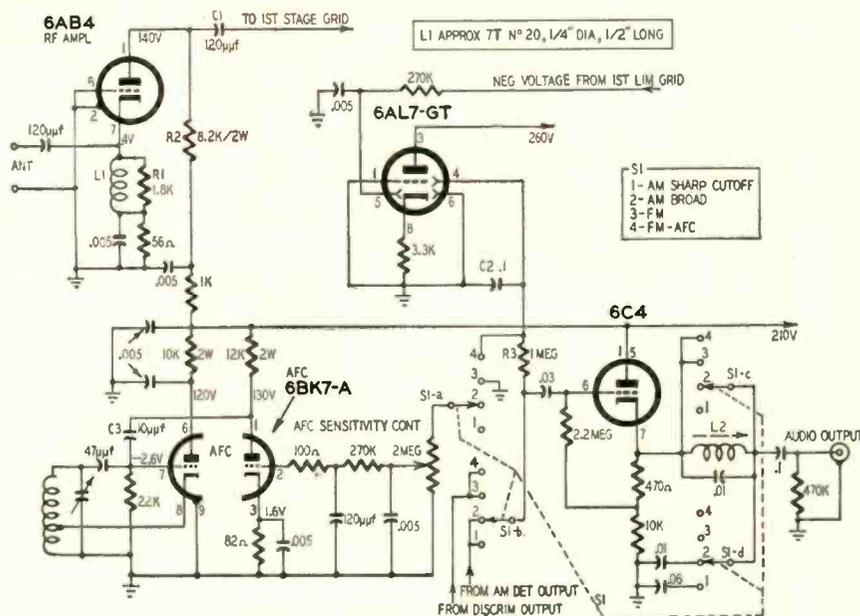

Fig. 1—Various circuitry modifications for improved tuner performance.
**M**ANY tuners in use today could be improved considerably by adding any or all of the following features: a grounded-grid rf stage for FM to increase sensitivity, afc to reduce the distortion and noise due to FM drift and mistuning, a double tuning eye for both AM and FM, a cathode-follower audio stage with a variable-cutoff whistle filter for AM (Fig. 1).
Current through the diode must be adjusted for not over 20 ma. Measurement in Fig. 1 showed a flow of 18 ma, so no other change was found necessary. If current is much higher than 18–20 ma, resistance must be added in series with the diode or choke to avoid overload. If the current is much less, the resistance of the choke is too high, the transformer is not delivering sufficient voltage or the input capacitor C1 is not large enough.